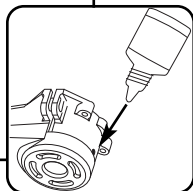

Fig.3
*** Place 2 to 3 drops of oil in the lubrication port as shown in fig.3 using the 15ml oil bottle supplied.**